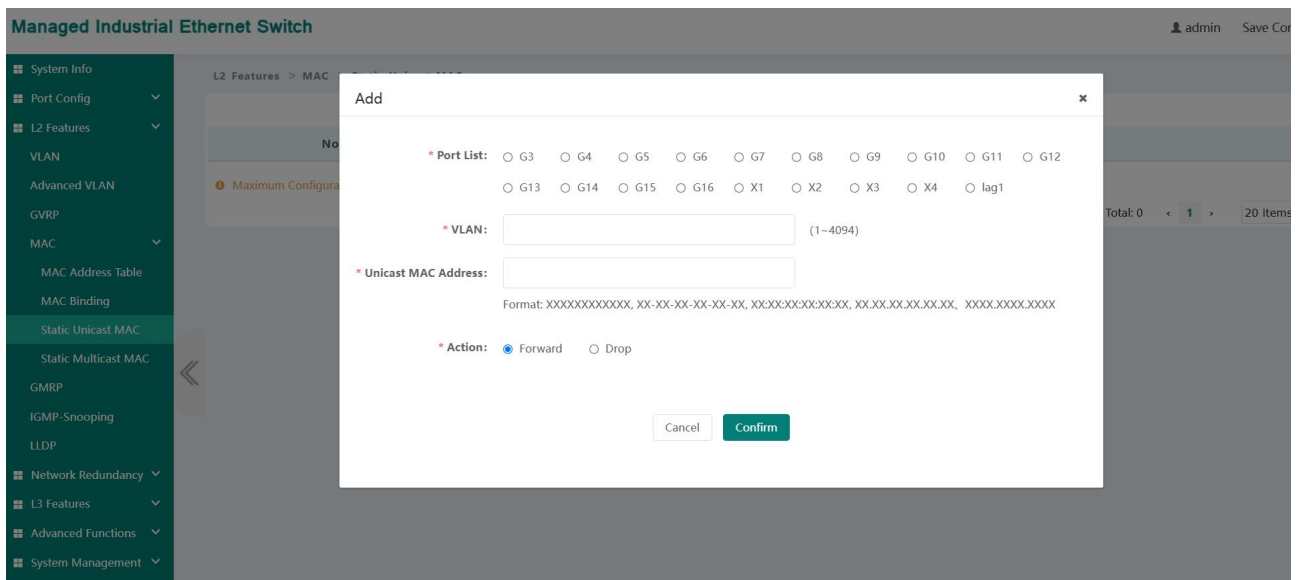

Figure 31 Static MAC Page
- ☐ MAC filtering is a security mechanism that applies to all ports. Packets matching the MAC and VLAN in the MAC filtering list are filtered by all ports. As shown in Figure 31: